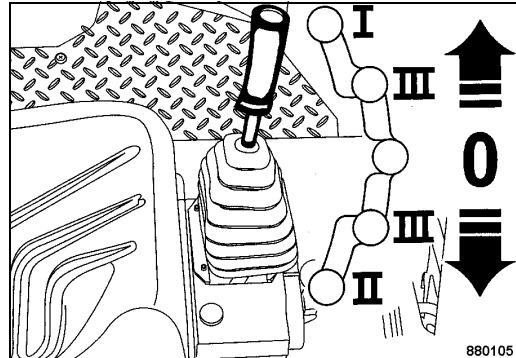

Fig. 78
- Pull the travel lever (Fig. 78) out of zero position (braking position) and shift it slowly to the desired travel direction forward or backwards ("III")